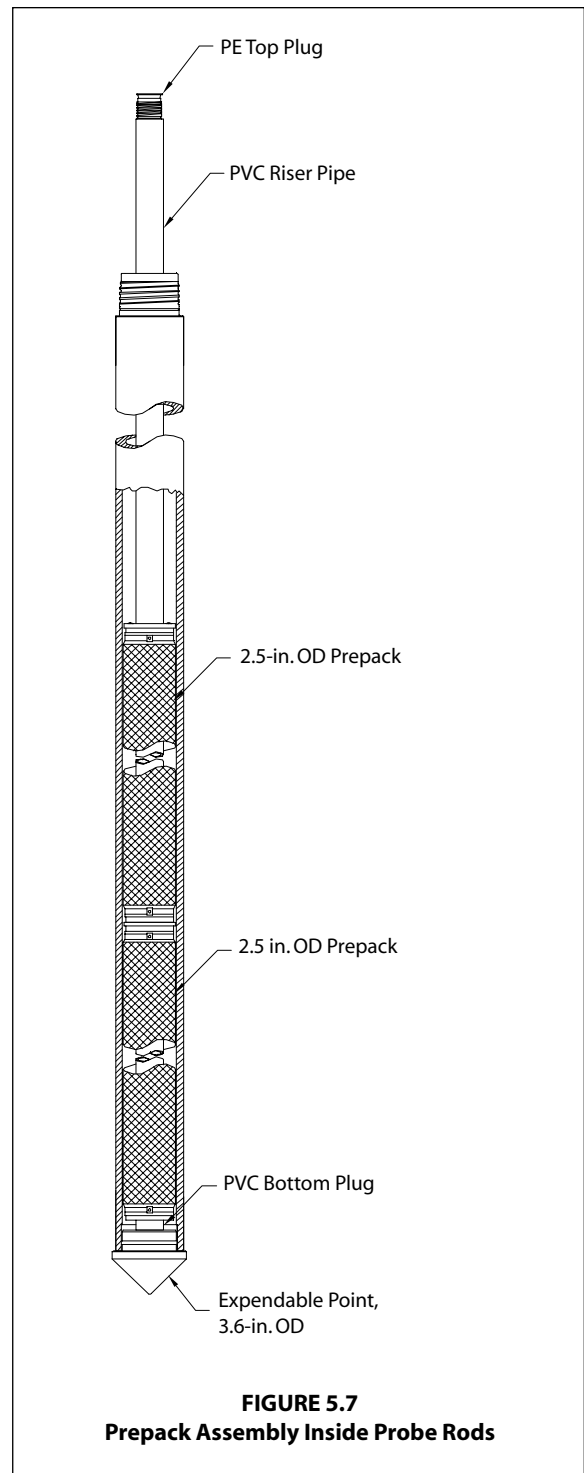

FIGURE 5.7
5. With the assistance of a second person, attach five-foot sections of 1.0-inch Schedule 40 PVC Riser to the top of the screen assembly. O-rings are required at each riser joint to prevent groundwater, located above the desired monitoring interval, from seeping into the well. Continue to add riser sections until the assembly reaches the bottom of the probe rods (Fig. 5.7). At least one foot (0.3 m) of riser should extend past the top probe rod. Place the plastic plug into the top riser. Duct tape may be used to help keep the plug in the riser.